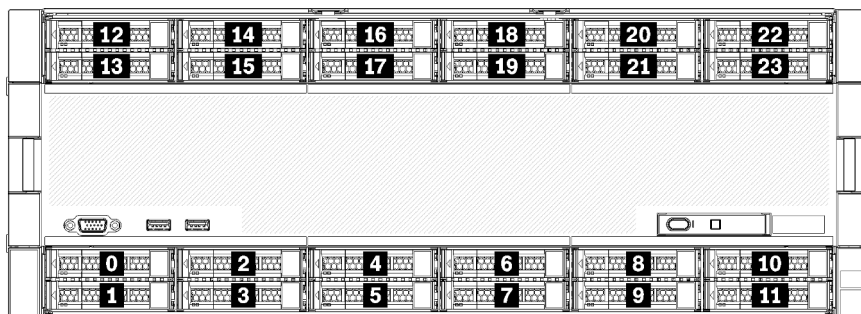

Figure 5. Drive bay locations
- Top two drives support SAS, SATA, or NVMe interface drives (Lenovo AnyBay). The server can support up to 12 NVMe drives, depending on the server configuration. The NVMe-capable drive bays are the even-numbered bays as shown in Figure 5 “Drive bay locations” on page 14.